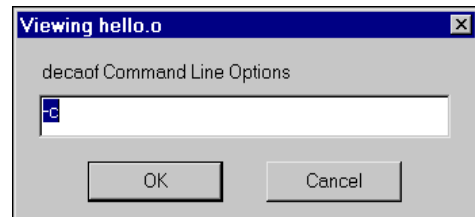

Figure 2-18 Viewing dialog
2. Select **Contents *hello.o*** from the **View** menu. The appropriate Viewing dialog for the translator is displayed (Figure 2-18).